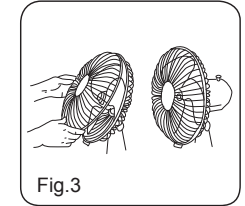

Fig.3
3. Fix the front grill and the rear grill with circlip clip and then use the fasten clip to tighten the fan grill. (Fig.3)